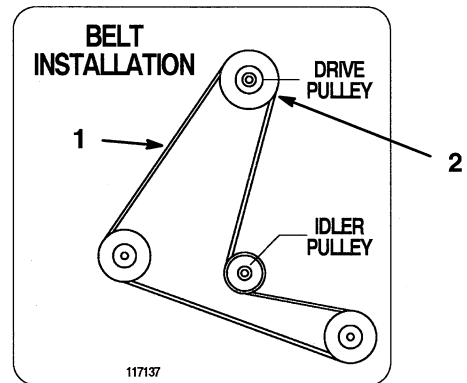

Figure 7
- Pull on idler pulley to relax belt tension and install mower drive belt onto the top engine drive pulley groove (Fig. 7).